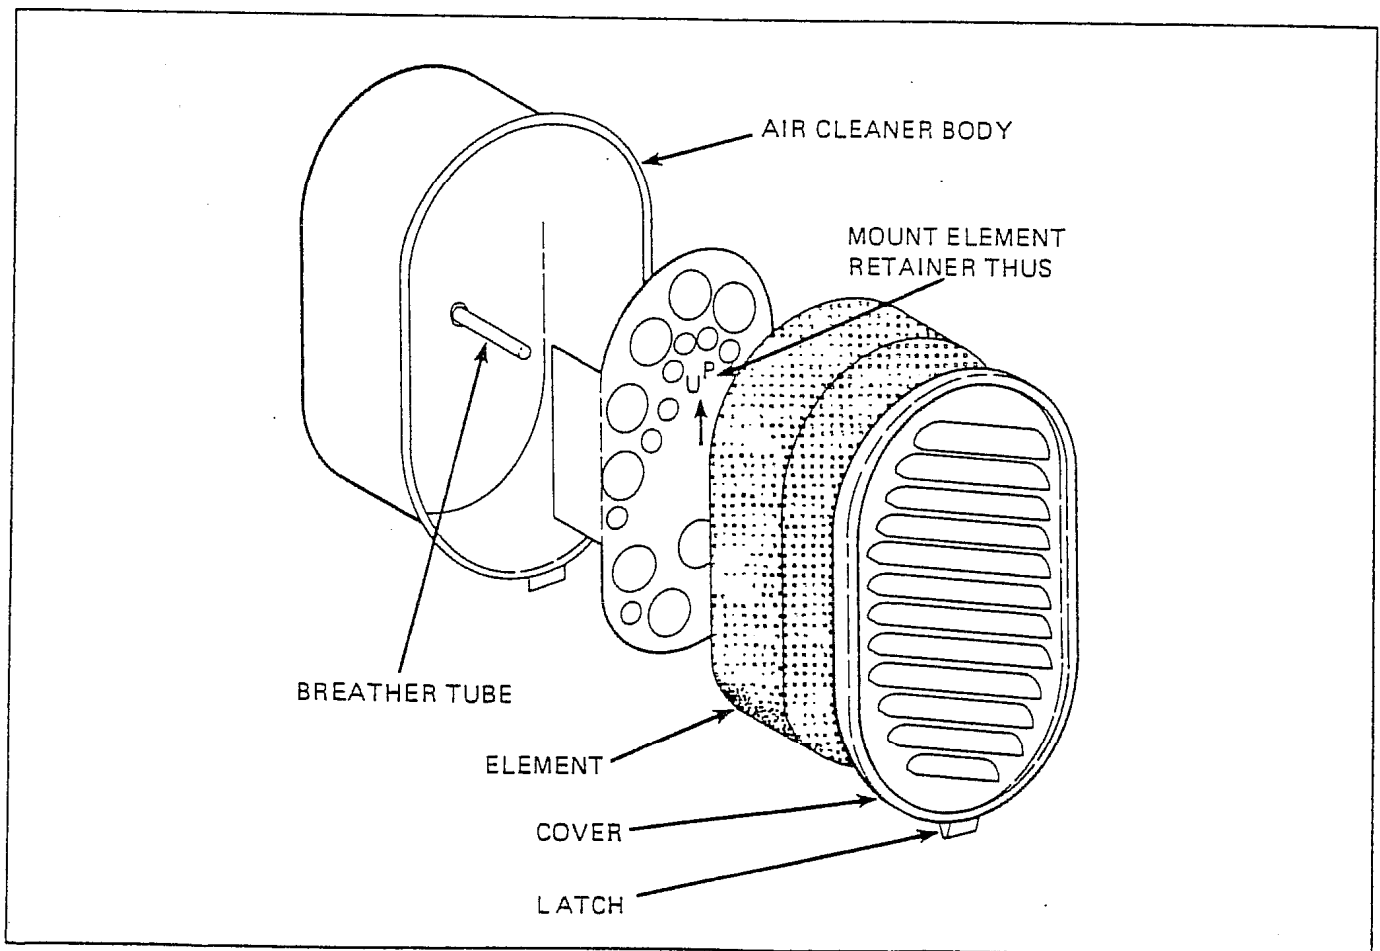

Figure 4-2 Engine Air Cleaner
4.4.2 REASSEMBLY. Mount element and retainer with arrow up, and cover with latch at bottom. See Figure 4-2.